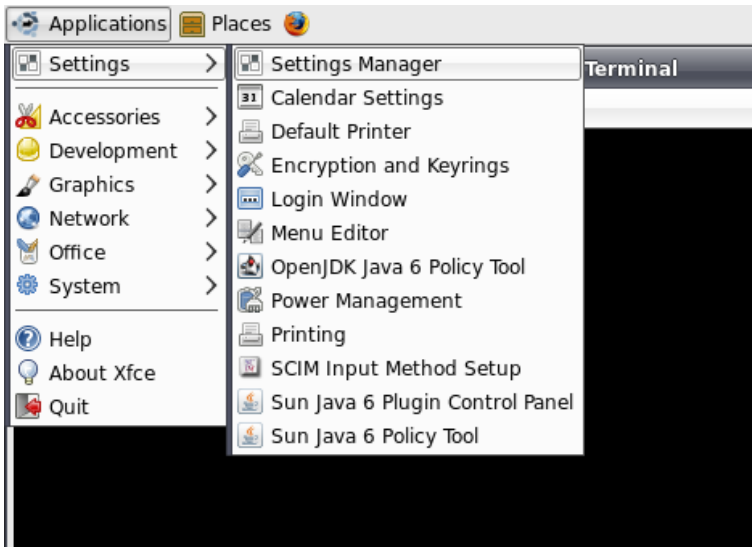

Figure 37: Calling "Xfce Settings Manager" from the start menu
**Adding more keyboard layouts** is possible by using "Xfce Settings Manager" which can be directly called from the start menu: "Applications -> Settings -> Settings Manager" (see Figure 37).